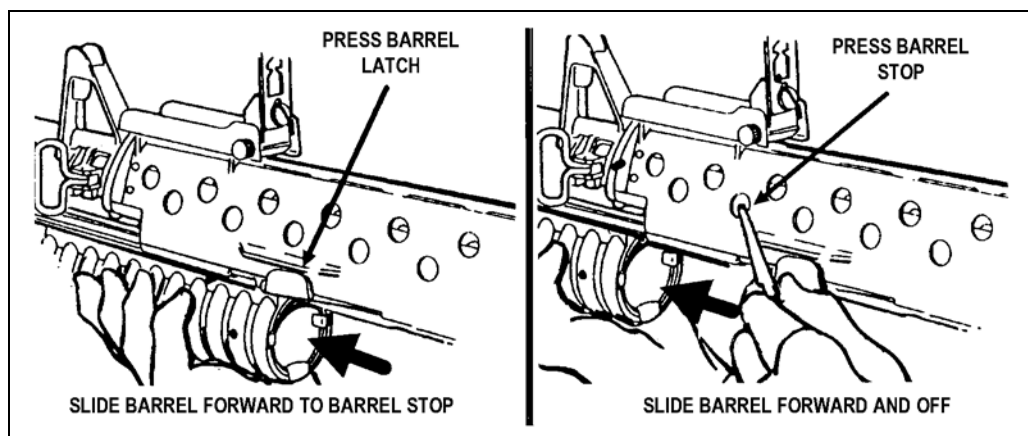

Figure 3-19. Removing the barrel assembly before the handguard assembly.
(1) **Barrel Assembly First.** Push the barrel latch and move the barrel forward until it hits the barrel stop. On the left side of the handguard, insert a cleaning rod into the fourth hole back from the muzzle, depress the barrel stop, and slide the barrel forward and off (Figure 3-19).